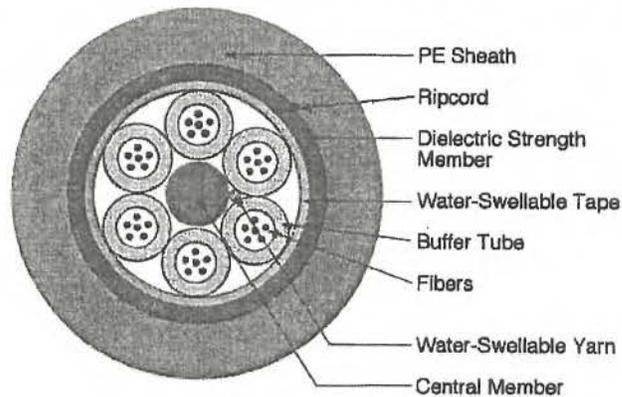

Figure 1
- 2.8 The cable shall be sheathed with medium density polyethylene. The minimum nominal jacket thickness shall be 1.3mm. The polyethylene shall contain carbon black to provide ultraviolet light protection and shall not promote the growth of fungus. The cable shall contain at least one ripcord under the sheath for easy sheath removal. The sheath material shall be made in accordance with ASTM D1248, Type II, Class C and Grades J4, E7 and E8. The sheath shall be free of holes, splits, and blisters. The sheath shall contain no metal elements and shall be of a consistent thickness. See Figure 1.